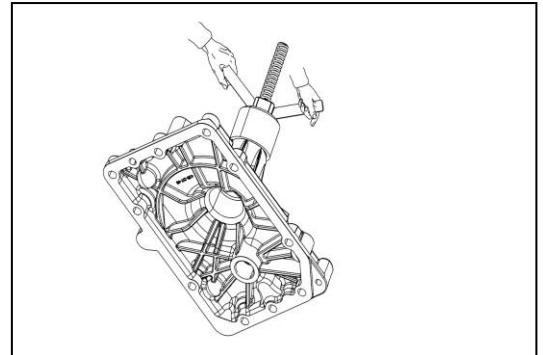

Fig. 6.3
20. Using puller T-09-00-0119 remove crankshaft needle bearing on PTO cover. (Fig 6.3)